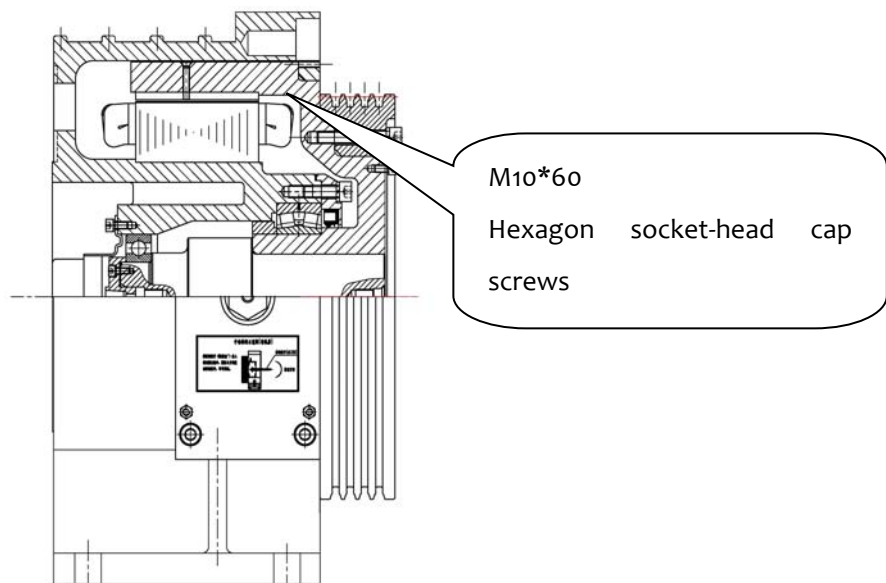

Fig.42 Removal of traction wheel bolts
1. use M10 Allen wrench to unscrew all bolts (8 bolts) on traction wheel as shown in Fig. 42;